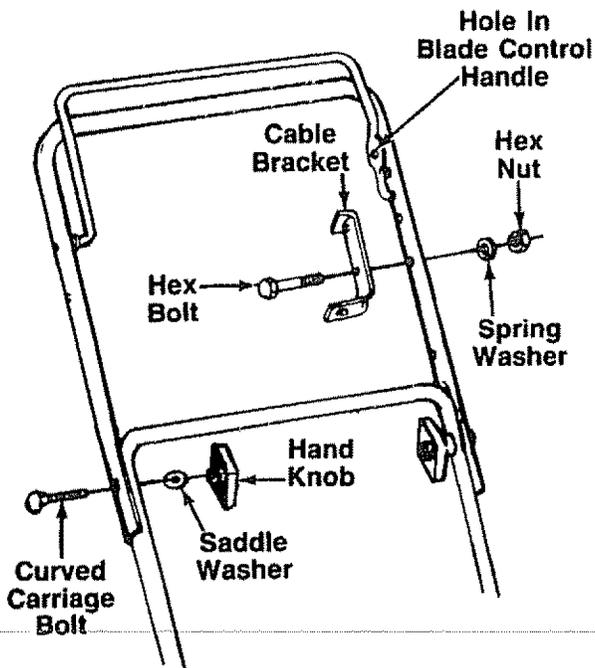

FIGURE 2.
- Secure the upper handle to lower handle using the curved head bolts, saddle washers and hand knobs as shown in figure 2.
- Place cable bracket against the inside of the upper handle (left hand side). The top part of the cable bracket should be just below the blade control handle. See figure 2.